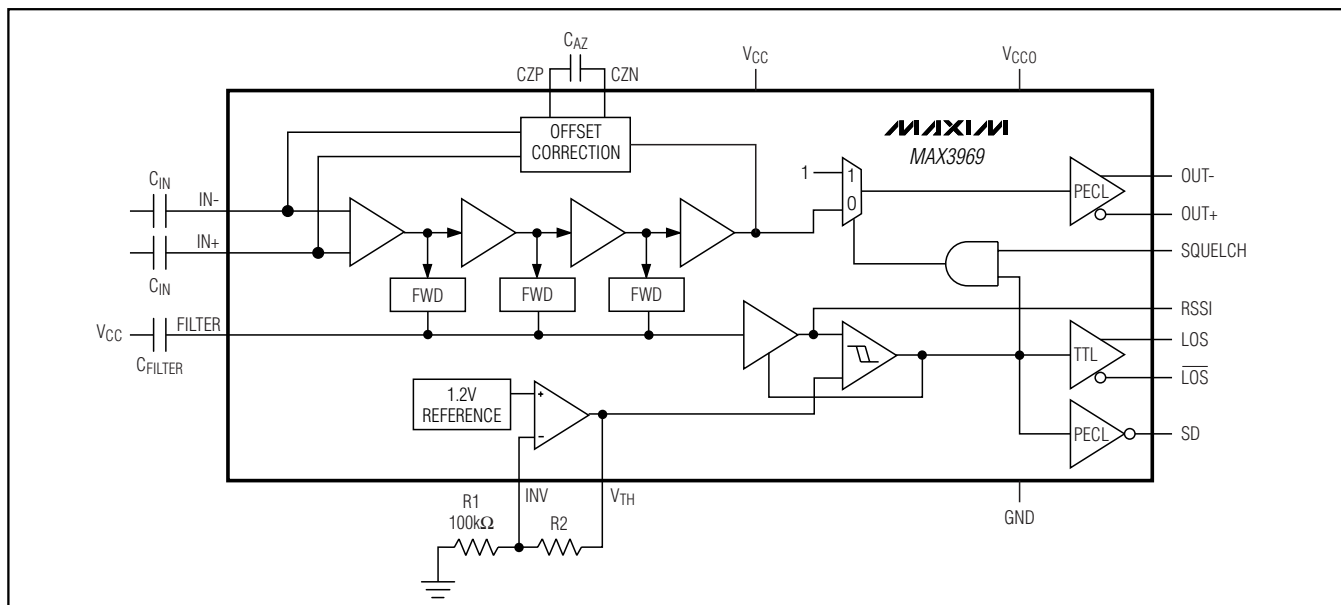

Figure 1. Functional Diagram
The MAX3969 contains a series of limiting amplifiers and power detectors, offset correction, data-squelch circuitry, TTL buffers for LOS outputs, and PECL output buffers for signal detect (SD) and data outputs. See Figure 1 for the functional diagram.